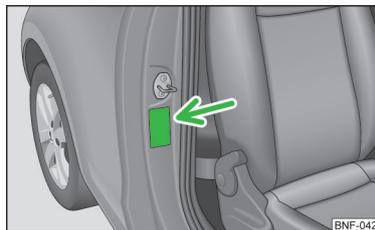

Fig. 11
- On the B-column on the front passenger side » Fig. 11. The sticker is visible upon opening the front passenger door.